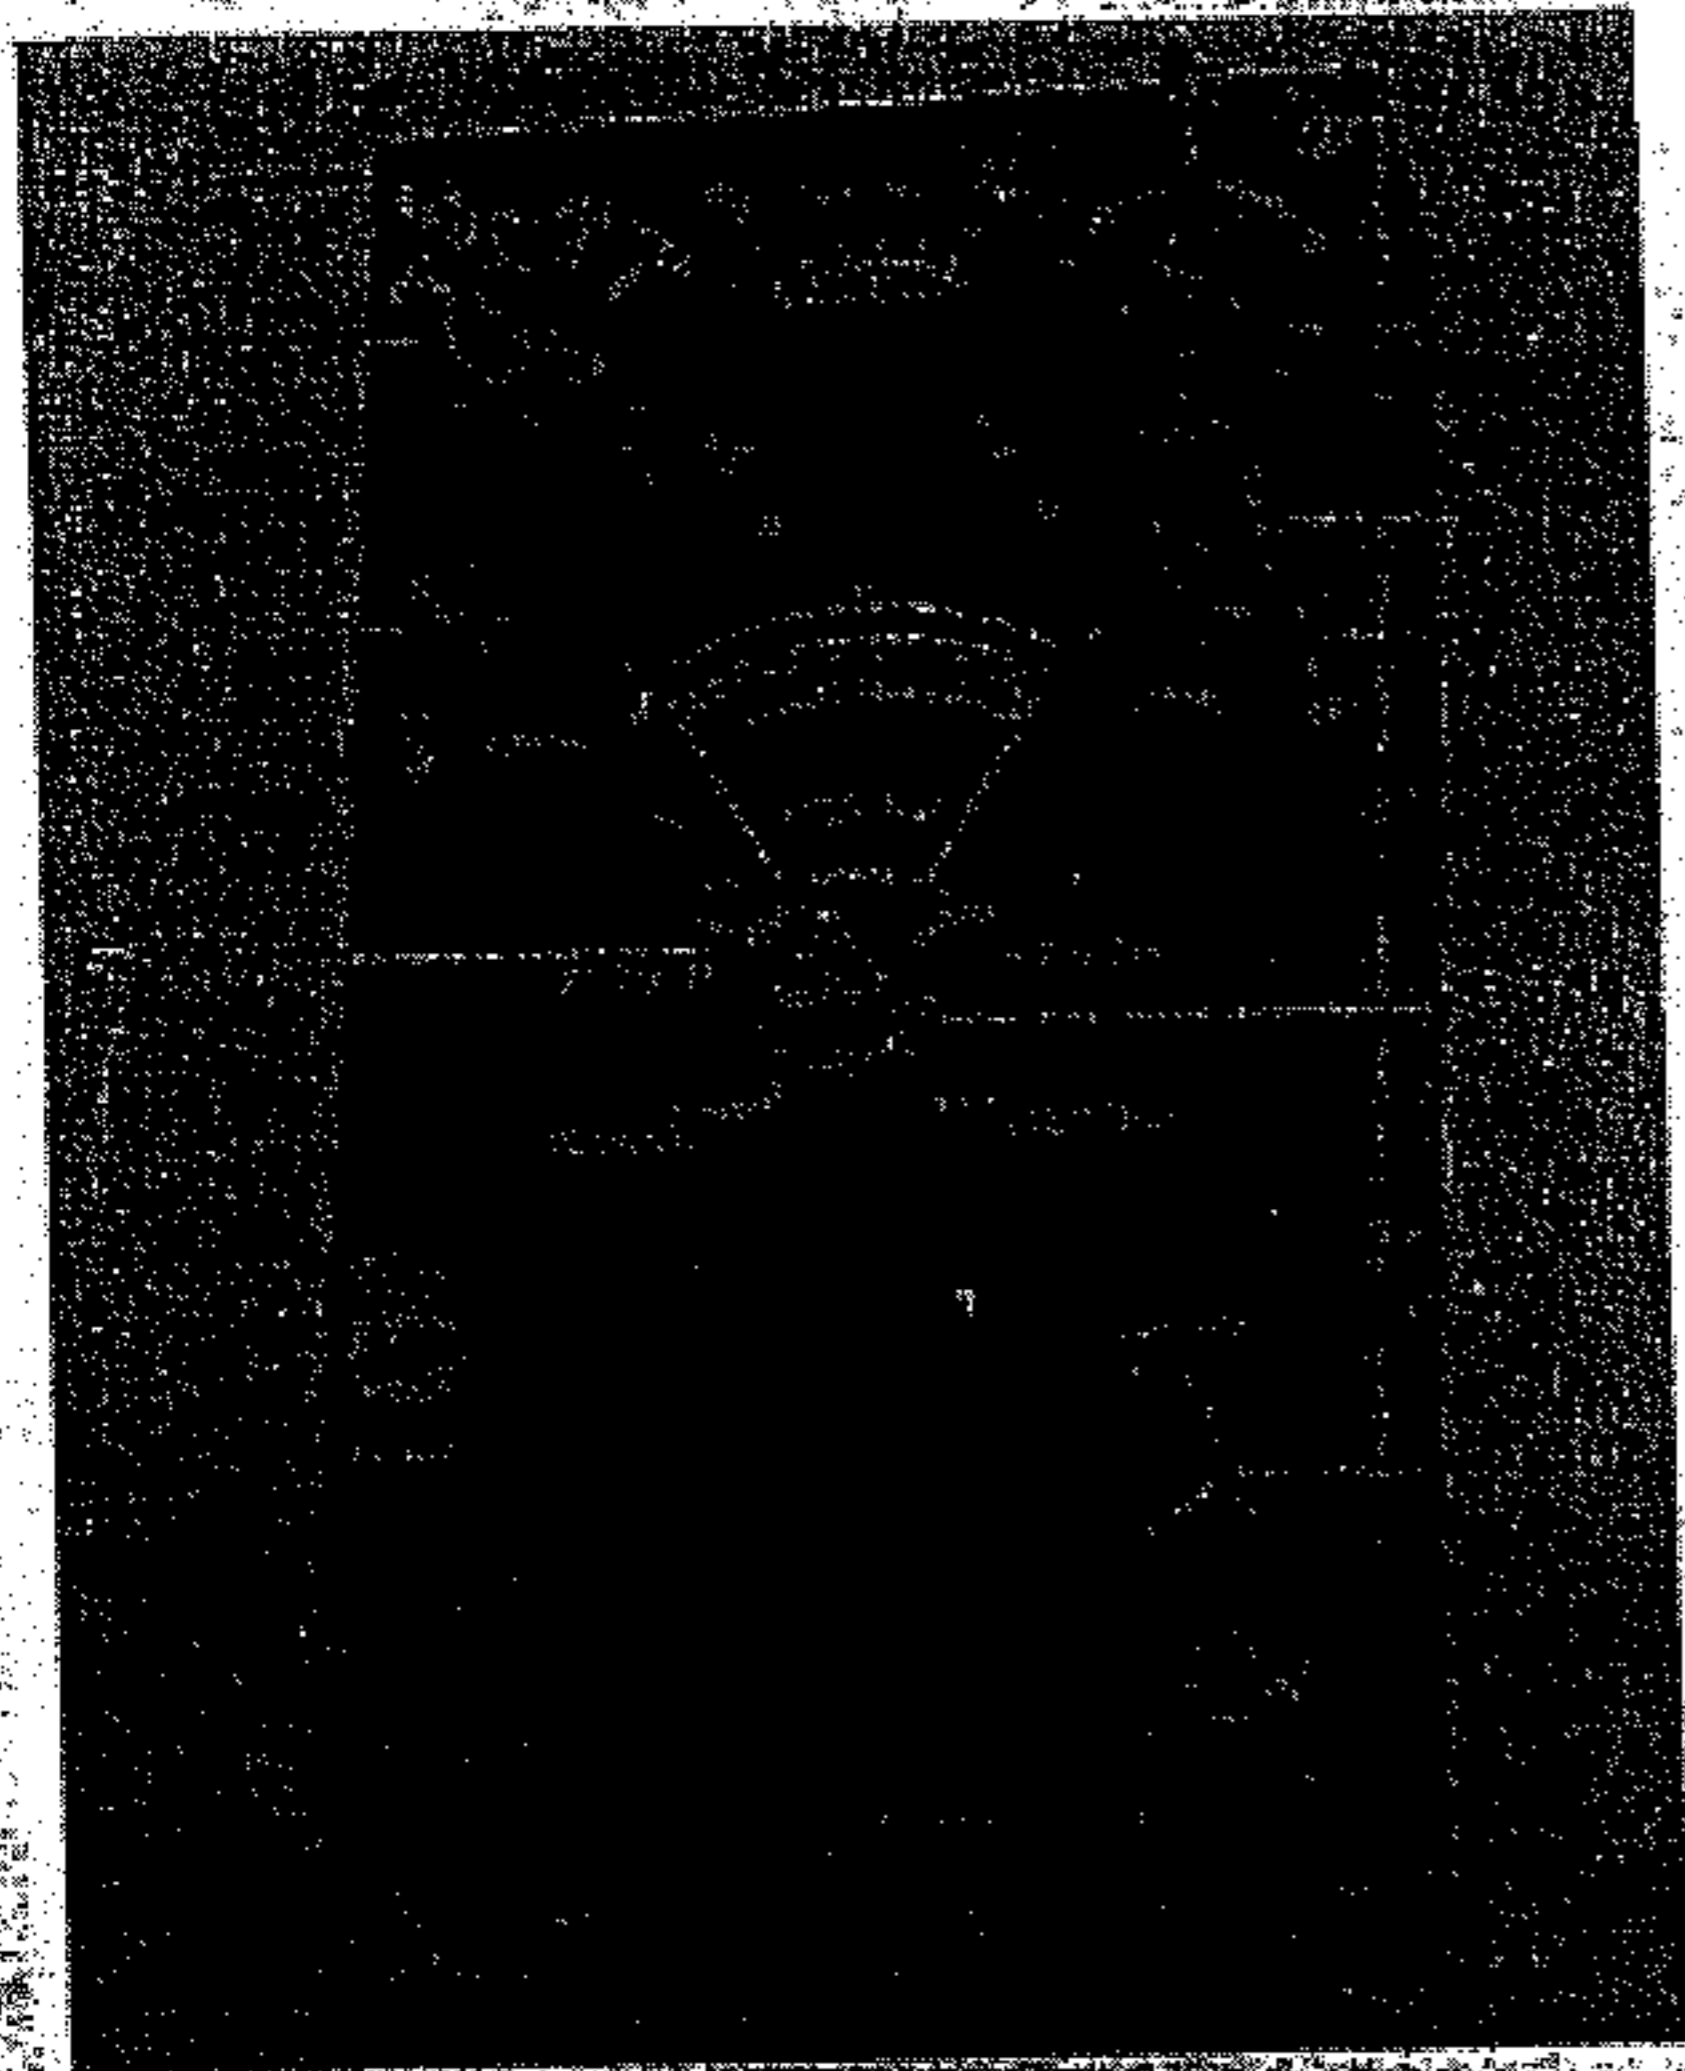

Figure 1-6. Control Box C-149/ARN-6 or C-149A/ARN-6
**d. CONTROL BOX C-149/ARN-6 AND C-149A/ARN-6.** (See figure 1-6.)—Control Boxes C-149/ARN-6 and C-149A/ARN-6 are rectangular shaped aluminum boxes with the necessary circuit elements and controls to provide complete remote control of the radio compass. For control from either of two positions, two control boxes are installed. The front panel contains the following: "OFF-COMP.-ANT.-LOOP" function switch, tuning meter, "LOOP L-R" switch, "LIGHT" control, dial, band switch, "CONTROL" switch, "TUNING" crank, "AUDIO" control, "CW-VOICE" switch, and "SPARE" bulb. Located on the end adjacent to the "AUDIO" control are the phone jack, and the flexible tuning shaft fitting. All electrical connections are made by a male connector located on the bottom of the control box. This male connector fits into a similar female connector located in the Control Box Mounting MT-275/ARN-6. The control box is held in the mounting by four captive screws.